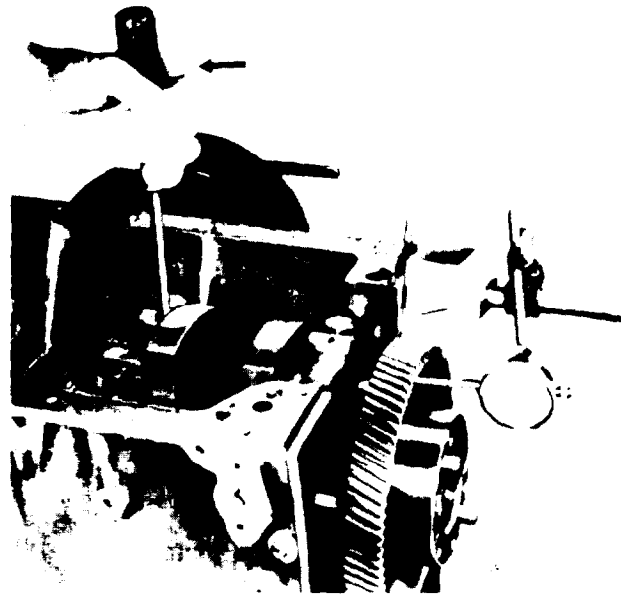

Figure 11B-77. Checking Crankshaft End Play
7. Check the crankshaft end play by moving the crankshaft toward the gauge (Figure 11B-77) with a pry bar. Keep a constant pressure on the pry bar and set the dial indicator to zero. Then remove and insert the pry bar on the other side of the bearing cap. Force the crankshaft in the opposite direction and note the amount of end play on the dial. The end play should be 0.004" to 0.011" with new parts or a maximum of 0.018" with used parts. Insufficient end play can be the result of a misaligned rear main bear-